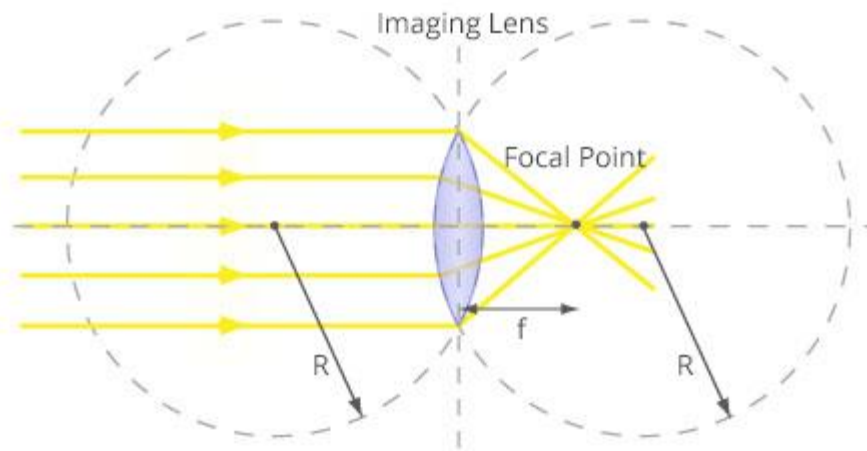

Figure 20: Focal point of a convex lens
Focal Length: Figure 20 shows a simple convex lens. Each of the lens's two surfaces is part of a sphere of radius R . The dotted line that connects the centers of these spheres is called the *optical axis*. The lens converges incoming light rays that are parallel to the optical axis toward a single point on the optical axis called the *focal point*. The distance between the focal point and the center of the lens is called the focal length (f) of the lens. It is a measure of the focusing power of the lens and is related to the radius of curvature (R) and refractive index (n) of the lens as follows [3]: